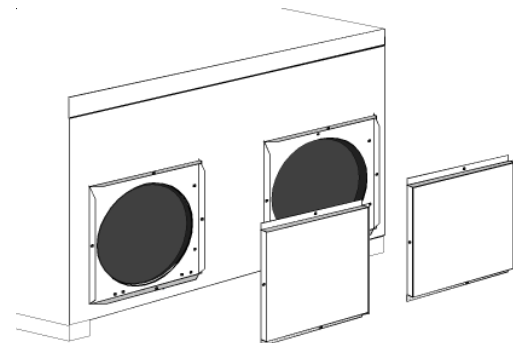

Figure 10 - Horizontal Duct Cover Alignment
- Align the horizontal duct covers (Figure 10) over the flange brackets just installed and secure with screws included in the Horizontal Duct Cover kit.